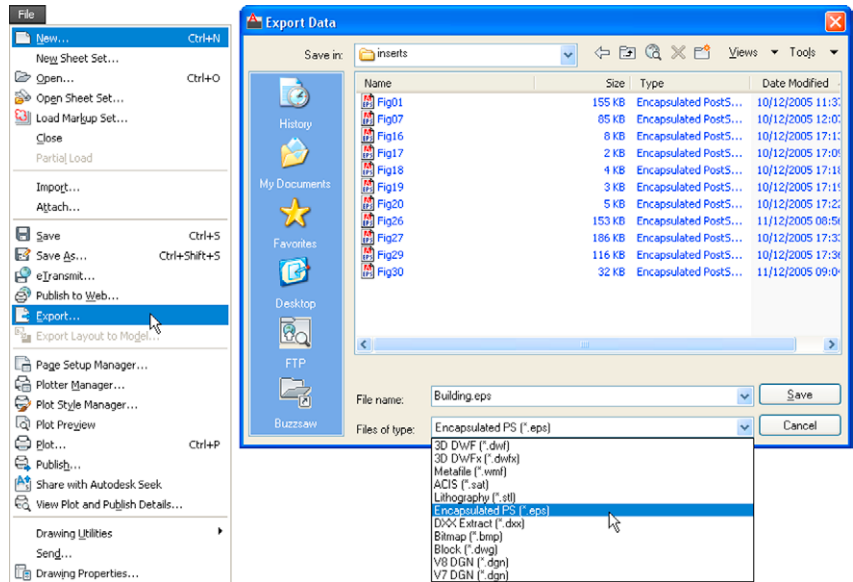

Fig. 10.3 The **Export** tool icon from the **File** drop-down menu and the **Export Data** dialog
### First example – Copying and Pasting (Fig. 10.3)
1. With the same drawing on screen *click* on **Export...** in the **File** drop-down menu (Fig. 10.3) or *click* **Export/Other formats** in the menu appearing with a *click* on the **A** icon at the top left-hand corner of the AutoCAD window. The **Export Data** dialog appears (Fig. 10.3). *Pick* **Encapsulated PS (\*.eps)** from the **Files of type** popup list then *enter* a suitable file name (e.g. **building.eps**) in the **File name field** and *click* the **Save** button.